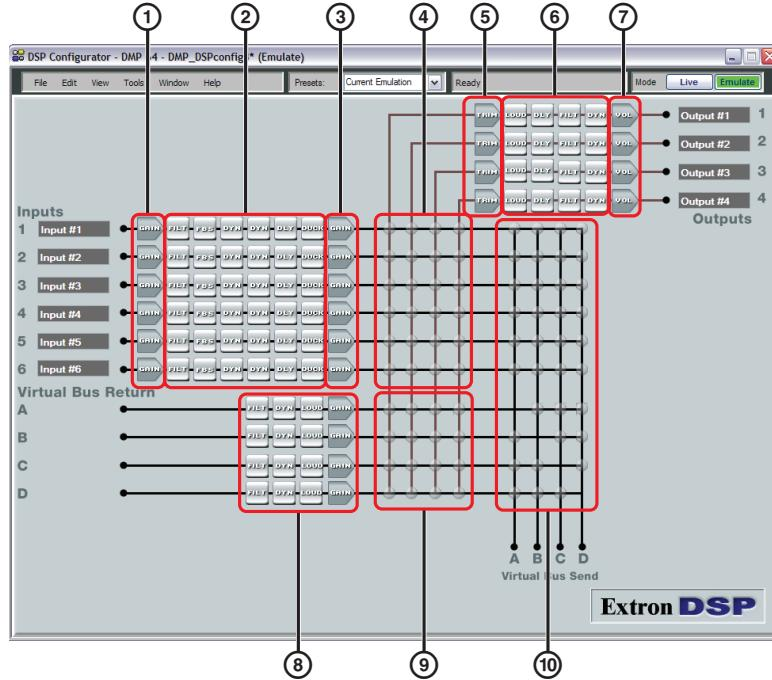

Figure 17. Control Blocks and Processor Chains
Outlined in red above (see figure 17), all control blocks on the main DSP user interface have one of three main functions in the overall signal chain:
Each of the three signal processing chains; Input (①, ②, ③), Output (⑤, ⑥, ⑦), and Virtual (⑧) (see figure 17), consist of a series of control blocks of two basic types specific to that chain: level control (gain, trim, and volume control), and signal processors (frequency filters, feedback suppression, dynamics, delay, ducking, and loudness). Both types of control blocks are always present in the chains. Gain controls default to unmuted and processor blocks are bypassed upon insertion.